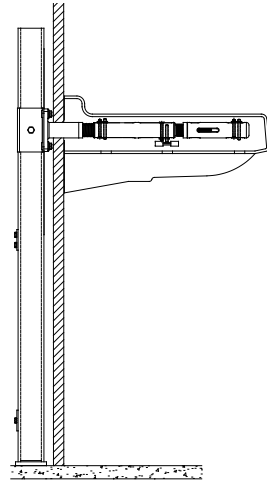

Fig. 10
10. Gently slide lavatory onto the carrier arms to 1/16" of the finished wall. The access holes on the underside of the lavatory should line up with the lockdown bar & adjustment screw holes of the arms. See Fig. 10